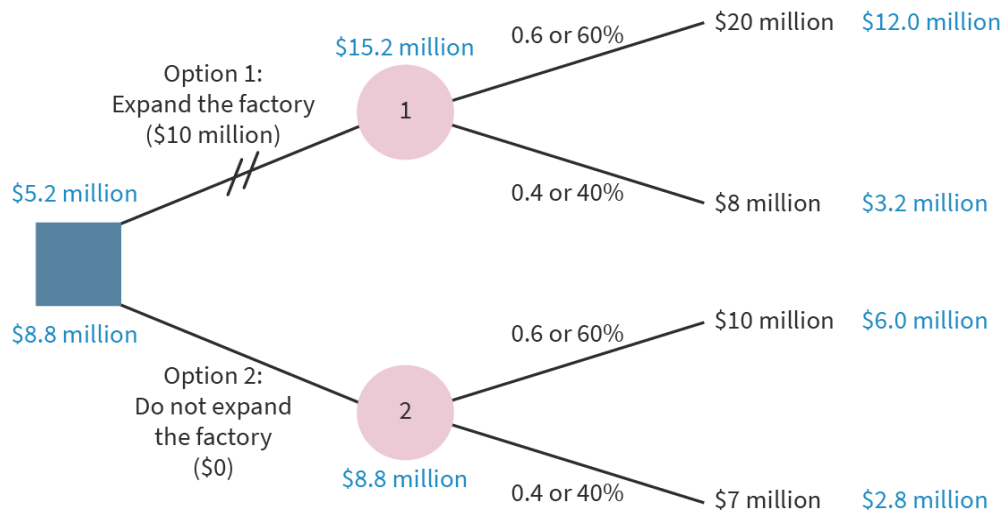

Figure 5. Solving the decision tree.
Step A: Calculate the expected value (EV) of revenues from each possible outcome. The expected value of revenues is the estimated revenue multiplied by the probability that it will happen. It can be helpful to write the EVs at the end of the branches as shown in **Figure 5**.
Step B: Calculate the **total** expected value of each of the two possible outcomes (success or not) for each option (expand the factory or not). It can be helpful to write the total expected value of each option above or below the probability node, as shown in **Figure 5**.
Step C: Calculate the **net** expected value of each option by subtracting the initial costs. This number can be written next to the decision node, as in **Figure 5**.
The completed tree will be as shown in **Figure 5**.